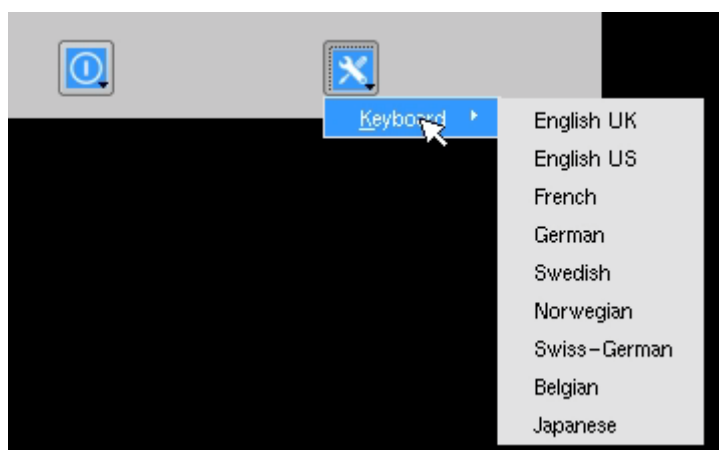

FIGURE 8-4. SETTING SYSTEMS KEYBOARD TYPE
- ♦ System Preferences: This button has a drop down menu that allows the user to define system preferences for the Emerald® receiver. Figure 8-4 shows how the keyboard type can be selected.